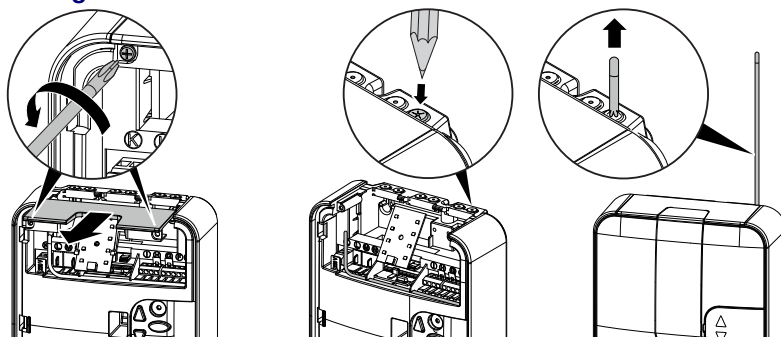

Fig. 4-5 Routing the antenna
2. Make sure that the antenna is correctly positioned (fig. 4-5, page 55).